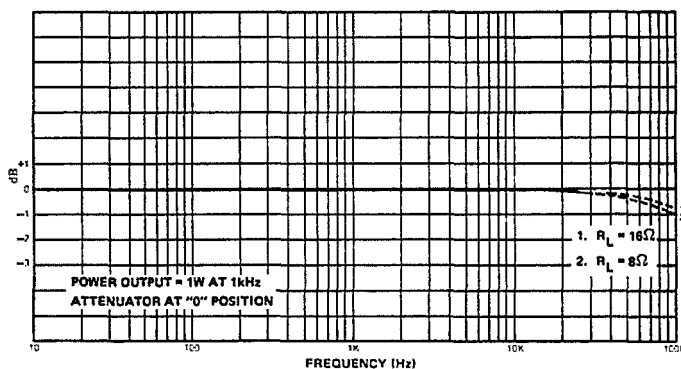

Fig. 5 - Frequency Response vs Load
**Frequency Response:** (Refer to Figure 5.)
## FREQUENCY RESPONSE (Refer to Figures 5 & 16)